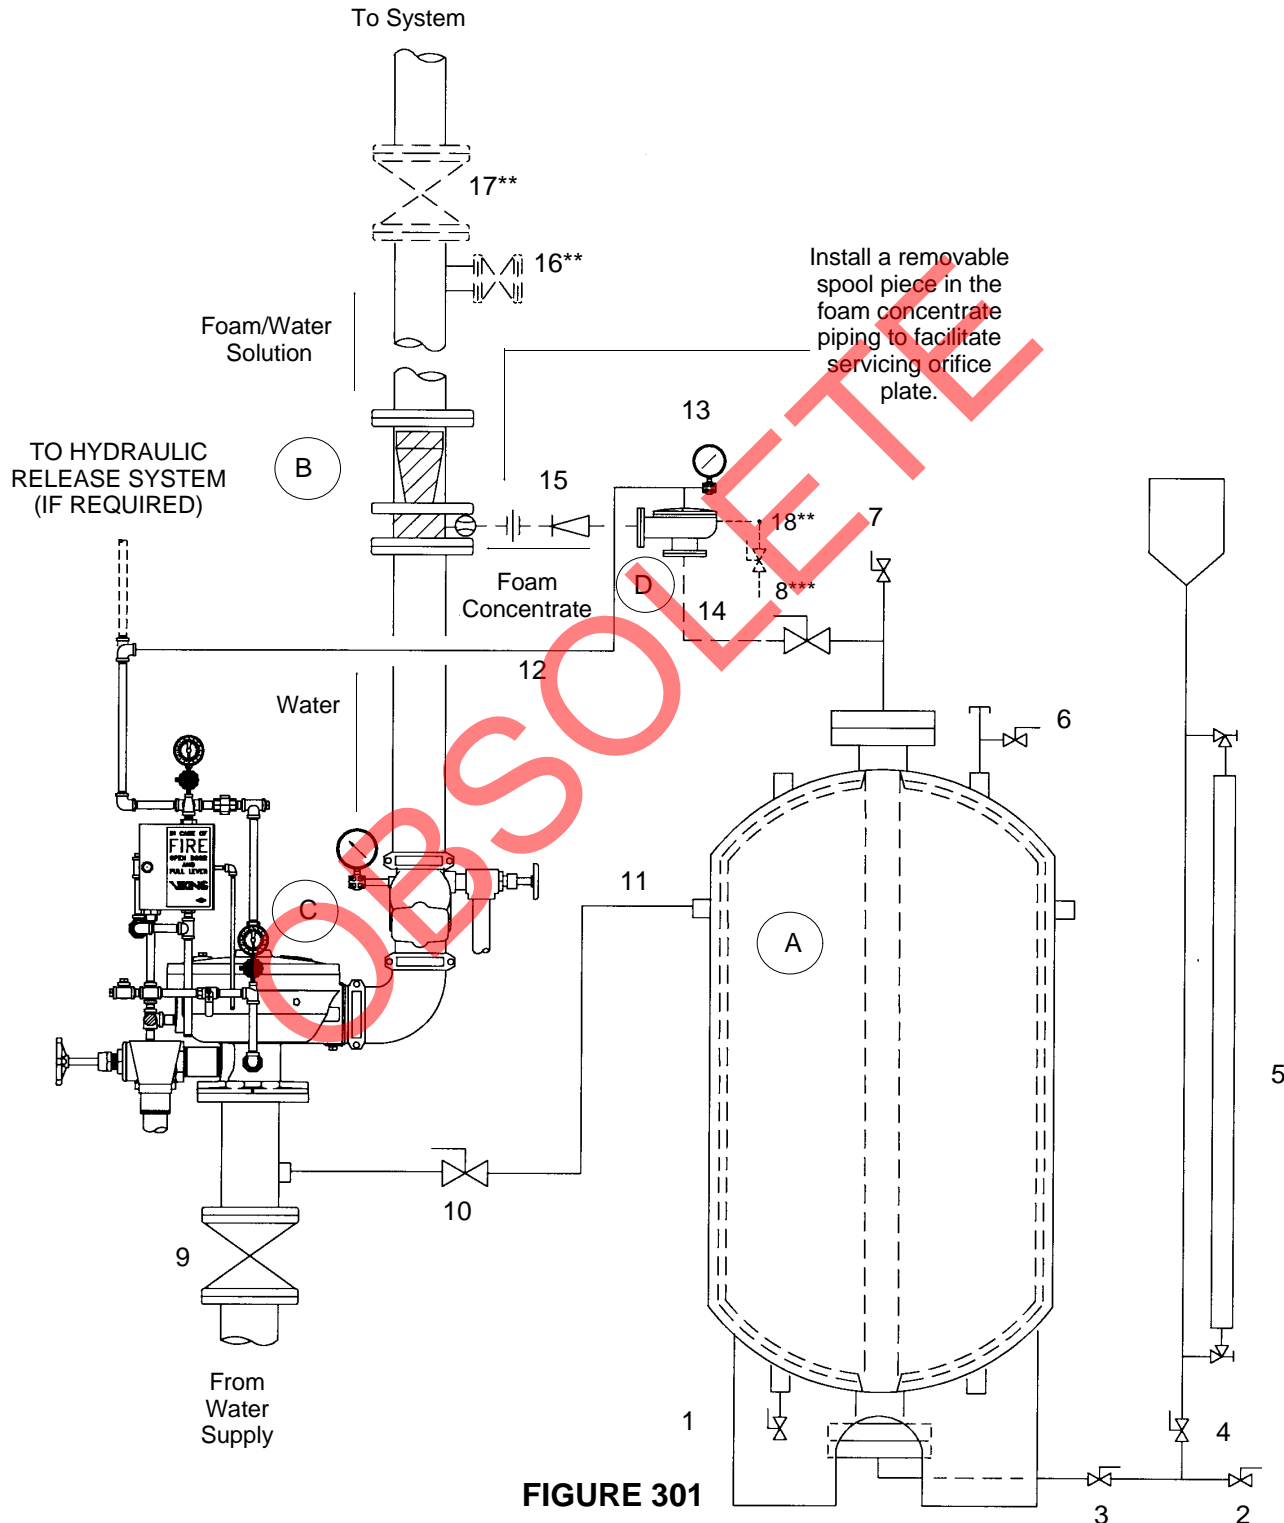

FIGURE 301
- Install the preaction valve (C) and trim in accordance with the Viking Engineering and Design Data Book.
- Install the proportioning device, concentrate controller with integral orifice (B), in riser piping level with top of bladder tank (A). This will help prevent the foam concentrate from draining or siphoning from the tank into the water supply piping due to expansion of foam in bladder tank. (See Note A and B, Page 301c)
- Install hydraulically actuated Halar® coated Viking deluge CCV (D) and associated trim including a removable spool piece as indicated on Figure 301, Page 301b, and trim charts or technical data pages.
- Install bladder tank (A) in accordance with the manufacturer's instructions with connections as shown on Figure 301, Page 301b and herein described.
- Install the pipe from the riser to the tank as indicated on Figure 301. The tank water supply piping (11) from the riser which supplies the bladder tank (A) should be installed higher than or level with the top of the bladder tank (A) as shown in Figure 301. The tank water supply piping connection for a pre-action system should be installed below the pre-action valve as shown on Figure 301. This is to eliminate the possibility of allowing compressed air into the bladder tank which could damage the bladder. This will also prevent the accidental draining of the bladder tank water supply piping and tank, when draining the system riser. Install the piping from the tank (A) to the concentrate controller (B) as straight as possible.
- Verify that water supply valve (9) is closed, close tank water supply control valve (10), then place the preaction valve (C) in service as follows (See installation instructions on Viking Technical Data Sheet) Open system isolation valve (17\*\*) if closed.
- Prime both Viking Deluge valves (C & D) by opening the priming valve on the preaction deluge valve (C) trim. Bleed off any air pressure trapped in the priming line (12) to the Viking Halar® coated CCV (D) by opening the 3 way pressure gauge valve (13).
#### SYSTEM COMPONENTS FOR FIGURE 301 - PREACTION BLADDER TANK FOAM SYSTEM WITH HYDRAULICALLY ACTUATED DELUGE CONCENTRATE CONTROL VALVE
- A** Provide a minimum of 5 pipe diameters of straight pipe on the inlet and outlet of the concentrate controller (B) to minimize turbulence inside the concentrate controller. However, if the outlet to the foam solution test valve (16\*\*) is located closer than 5 pipe diameters there may be turbulence at high flow rates.
- B** The combined total equivalent length of pipe (pipe length, plus equivalent lengths for fittings and valves) including both the water supply inlet piping (11) and the foam concentrate discharge piping (14), should not exceed 50 equivalent feet (15.2 meters). This will allow both pipes to be the same size as the foam liquid inlet to the concentrate controller. If the total equivalent length must exceed 50 feet (15.2 meters), then refer to the Proportioning Device Design Data located in the Design Section of this data book for the method of calculating these pipe sizes.
- C** The Viking Halar® coated deluge CCV (D) and swing check valve (15) must be connected adjacent to the concentrate controller using pipe nipples as short as possible.
- D** Figure 301 is a general schematic of the required piping arrangement. Refer to the appropriate technical data page for specific information regarding the valve, tank, and related trim and devices.
- F** The Viking Halar® coated deluge CCV (D) does not require any trim except for a 1/2" priming line (12) and water pressure gauge and 3 way valve (13) from the main deluge valve (C) to the priming chamber of valve (D). Plug all remaining valve trim outlets. Refer to the Equipment section of this data book under Valves, to find the correct trim kit part number for the corresponding size of foam CCV (D) required.
- G** A strainer is not required in the foam concentrate discharge piping (14) of bladder tank systems per NFPA Standards.